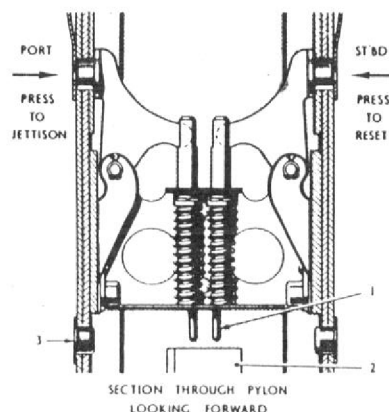
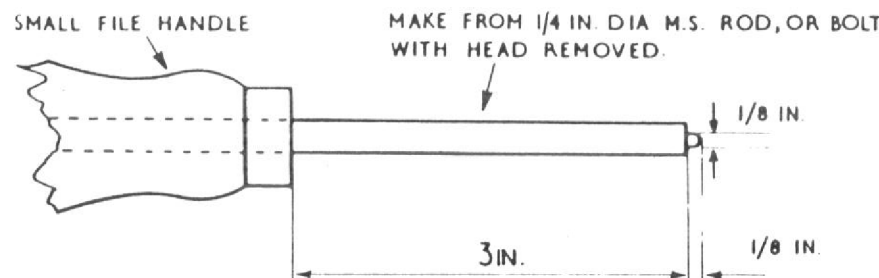

Fig. 5 Jettison and reset mechanism
Fig. 6 Tool for operating jettison and reset button
- (1) Disconnect the armament safety break in the port wing.
- ◀ (2) Remove the Chekaleke plugs (3, fig.5) from the sighting holes on the port and starboard sides of the pylon and check that a gap exists between the top of the release housing (2, fig.5) and the bottom of the plungers (1, fig.5) and that this gap does not exceed 0.10 in.
To avoid damage to the jettison and reset mechanism it is essential that only a tool similar to that illustrated in fig.6 is used to operate the jettison and reset buttons. After operation, an inspection must be made to ensure that the buttons have returned to their normal position, which is 0.10 in. below the skin level of the pylon.
- (3) If the electro-mechanical release unit (9) is not open, press the jettison button (3) (shown also on fig.5), on the port side of the pylon, using a tool similar to that shown in fig. 6, and then reset by pressing the reset button on the starboard side of the pylon. (Should the electro-mechanical release be already open, only the reset button on the starboard side should be used.)
- ◀ (10) Apply the final crutching load by using a torque wrench (Ref. 1L/171) set to $80 \pm \frac{2}{0}$ lbf ft attached to the adapter on the crutching spanner. Check again through the sighting holes in the pylon that a gap exists between the top of the release housing (2, fig.5) and the bottom of the plungers (1, fig.5) and that this gap does not exceed 0.10 in. Replace the Chekaleke plugs (3, fig.5).
- (11) Re-check that the release unit is fully cocked by means of the cocking test socket and test set, and close the rear door.
- (12) Remove the torque wrench and crutching spanner and replace the access panel in the wing.
- (13) Immediately before flight, replace the Armament Safety break